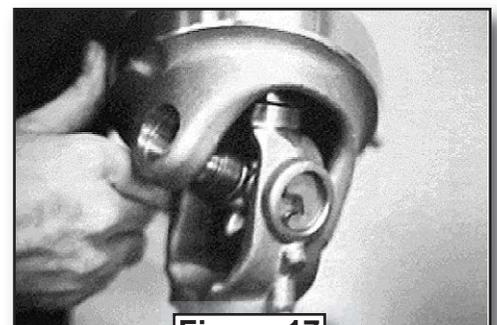

Figure 17
15. Rotate the center housing so the grease fitting is away from the shaft yoke. This will align the grease fitting in the center housing with the hole in the guards. The grease fittings in the center housing and the cross must be toward the same side of the assembly. Make sure the pin of the center plate in the center housing is clean. Install the pin in the ball and cross in the ears of the center housing (see Figure 17).